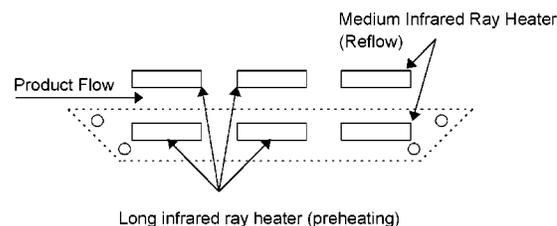

Figure 3.5.2 Heating top and bottom with long or medium infrared rays
- (a) Heating top and bottom with long or medium infrared rays is recommended (see Figure 3.5.2).